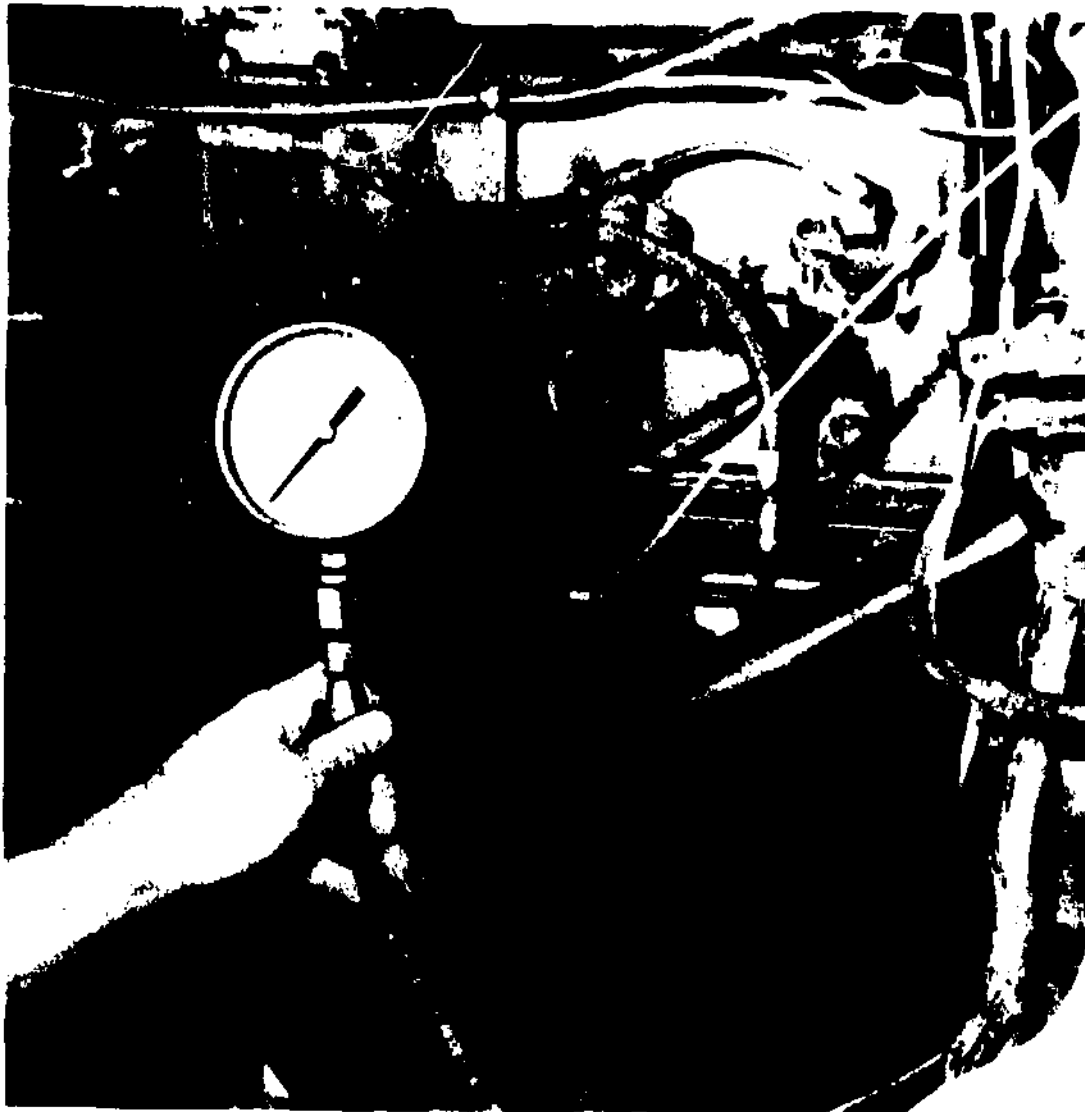

Fig 4-13. Fuel pressure gage installed on engine (dual filters).
a. Pump pressure test. Remove the bleeder valve from the top of the final fuel filter. Install the nipple or elbow, whichever is most convenient. Attach the hose assembly, connector, and gage as shown in figure 4-13.